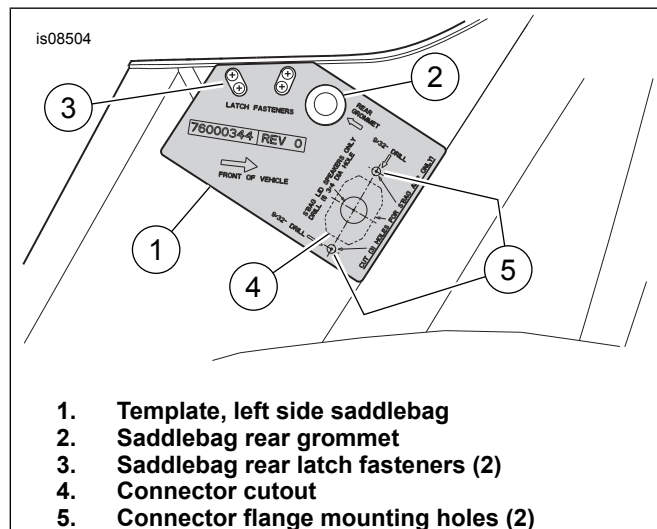

Figure 3. Left Saddlebag Drilling For Stage II Amplifier Installation
2. Place the saddlebag on a protected surface with the mounting (inboard) side facing up. See Figure 3. Place the template (1) on the saddlebag. Align the grommet (2) and latch fastener (3) openings. Trace the cut outline (4) for connector [288A] onto the saddlebag. If saddlebag lid speakers are present from a previous installation, left side speaker wires could be in the connector cutout location. Remove the wire and grommet.
3. Carefully cut the cutout (4) in the template (1) for connector [288A] on the dashed line.
4. Drill two pilot holes (5) for the connector flange mounting locations.
7. See Figure 3, Item 5. Drill two holes at the connector flange mounting pilot hole locations.